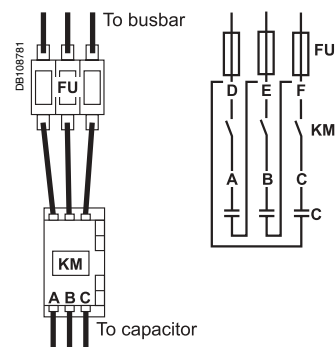

Fig. 25: breaking in the branches.
- breaking in the delta branches (fig. 25)